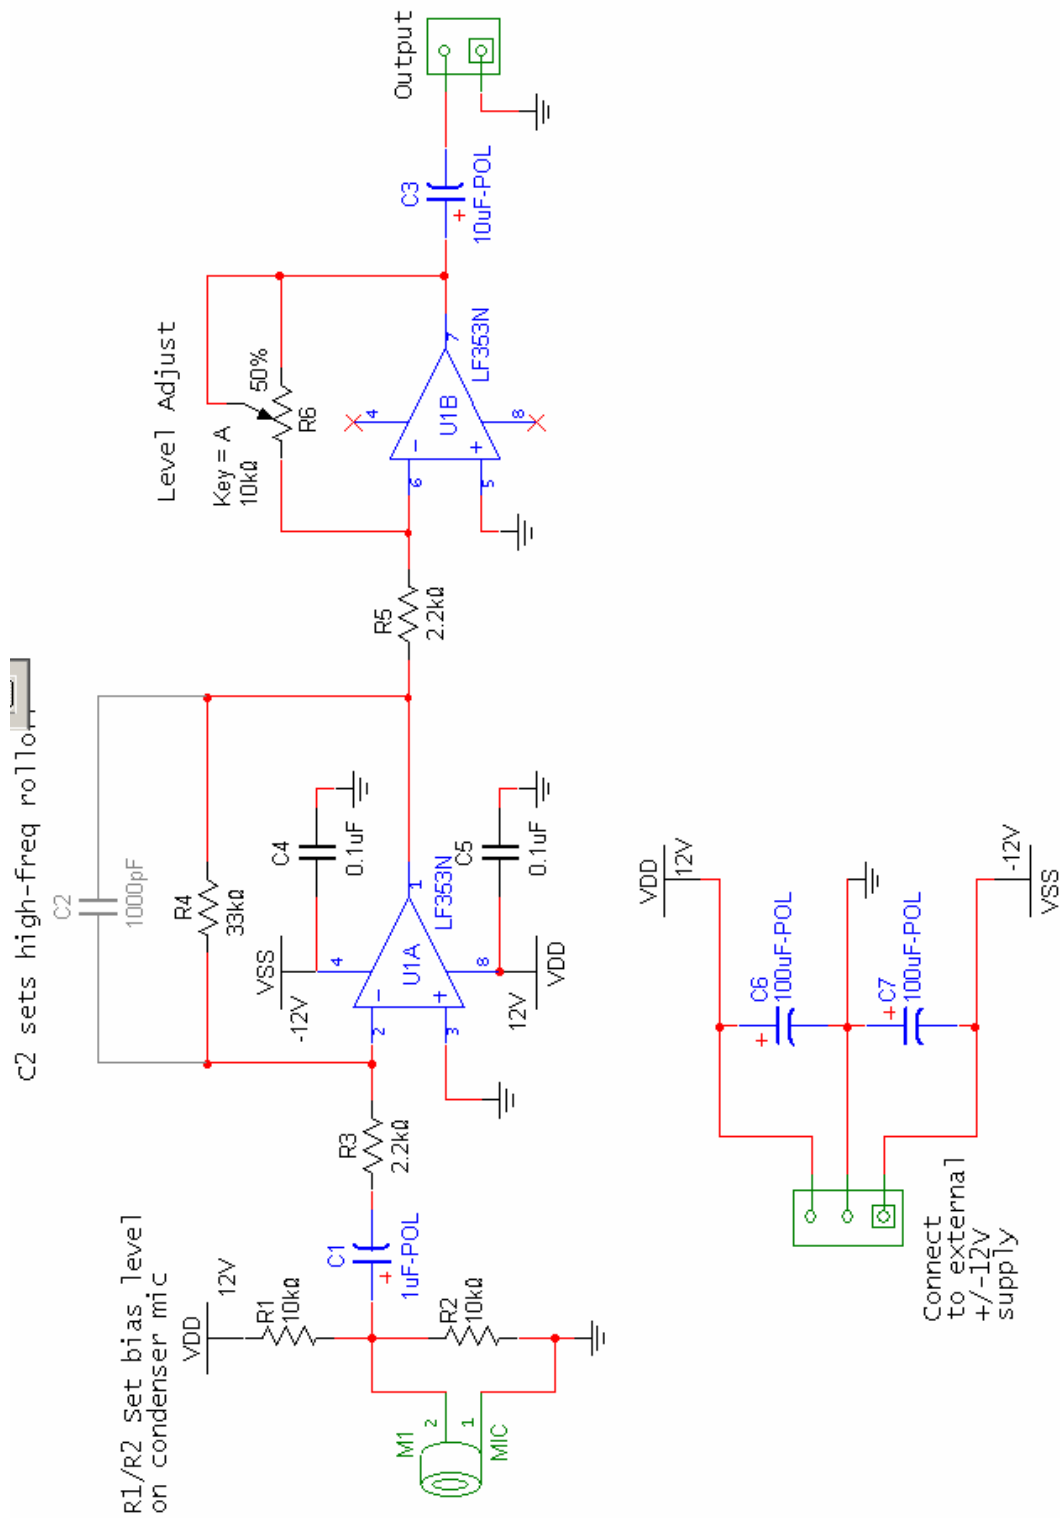

Figure 1-1 – Schematic for the microphone preamplifier.
- With reference to the full schematic in Figure 1-1, calculate the lower cutoff frequency imposed by capacitors C1 and C2 and the resistances in the circuit:
- Configure your solderless breadboard with +/- 12 Volt and ground connections using the bench power supply. Add the large $100\mu\text{F}$ supply capacitors (C6 and C7) onto your breadboard as shown in the schematic in Figure 1-1.
- Now temporarily add in capacitor C2 (refer to the full schematic in Figure 1-1). This introduces another pole in the system to reduce the high-frequency gain (prelab calculation). Sweep the frequency to determine the resulting upper cutoff frequency, and record this in the lab record along with the voltage gain in the passband (around 1 kHz). Remove C2 when you are finished.
- Add in the remaining circuit elements according to the schematic in Figure 1-1. This last step just adds a simple inverting stage that can amplify or attenuate the signal. This will be helpful later to adjust the microphone signal level for a desired amplitude to drive the AM modulator.